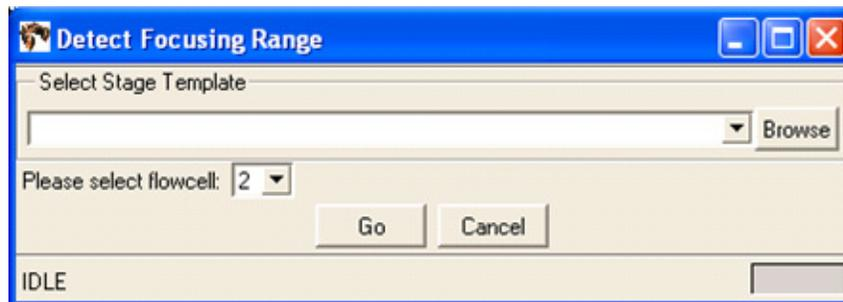

Figure 51 Detect Focusing Range dialog.
3. In the focusing range dialog, specify the stage template file by entering the name directly or by clicking the **Browse** button to navigate to a suitable one (see Figure 51). The stage template must match the slide in the target flowcell(s). If you created a run from the ICS, then select the file **imagingMap.STG** from the subdirectory in C:\Runs whose name matches the name of the run (for example, select C:\Runs\Solid0327_20081209_2_Oct_Test\imagingMap.STG).